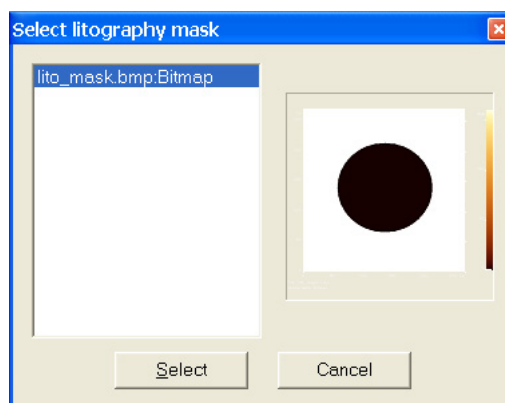

Figure 2.8. Selecting a mask image for lithography.
- Lithography - lithography mode. Lithography can be performed in two modes - lithography by a probe (Z), and litography by a voltage (Ut). On the Litography tab user can choose Mask image, litography mode and parameters for probe-sample interaction during lithography process. By pressing the Select button, the user can call a window that allows to choose mask image (fig. 2.8). If mask dimensions (in points) doesn't coincide with dimensions of scanning region then there are 3 possibilities: 1) Mask resolution will be changed; 2) centers of the mask and the region will be superposed; 3) Dimensions of scanning region will be changed to dimensions of the mask. In the Z mode, the scanning goes in two stages. During the first stage, surface profile in forward (trace) and backward (retrace) direction is acquired. During the second stage, the average slope plane is calculated and a scaled image mask scale with Z offset from 0 to Z is added to this plane. A probe during scanning traces the surface obtained at the second stage.